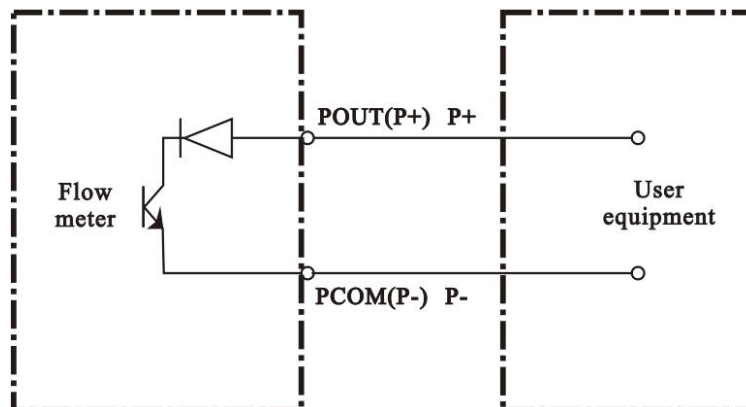

Figure 10
7.4.3 Output mode 3: gate 0C active output (Figure 10)